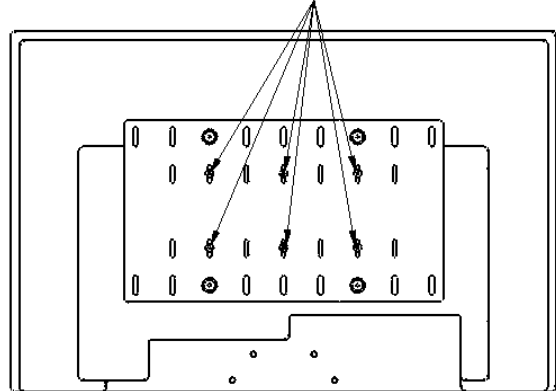

Figure 6. Display with 200mm x 100mm Hole Pattern
2. Attach the MSB-V (10) using the hole-pattern on the back of your display as shown in Figure 6.